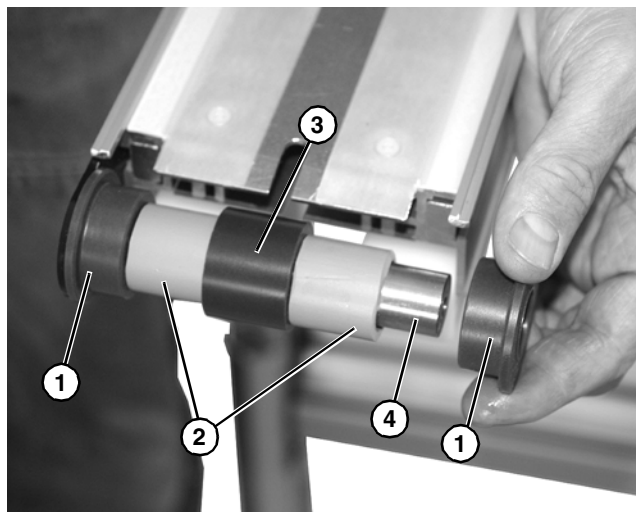

Figure 64
4. Slide tracking sleeves (Figure 64, item 1), spacers (Figure 64, item 2), and idler sleeves (Figure 64, item 3) off the end of pulley (Figure 64, item 4).